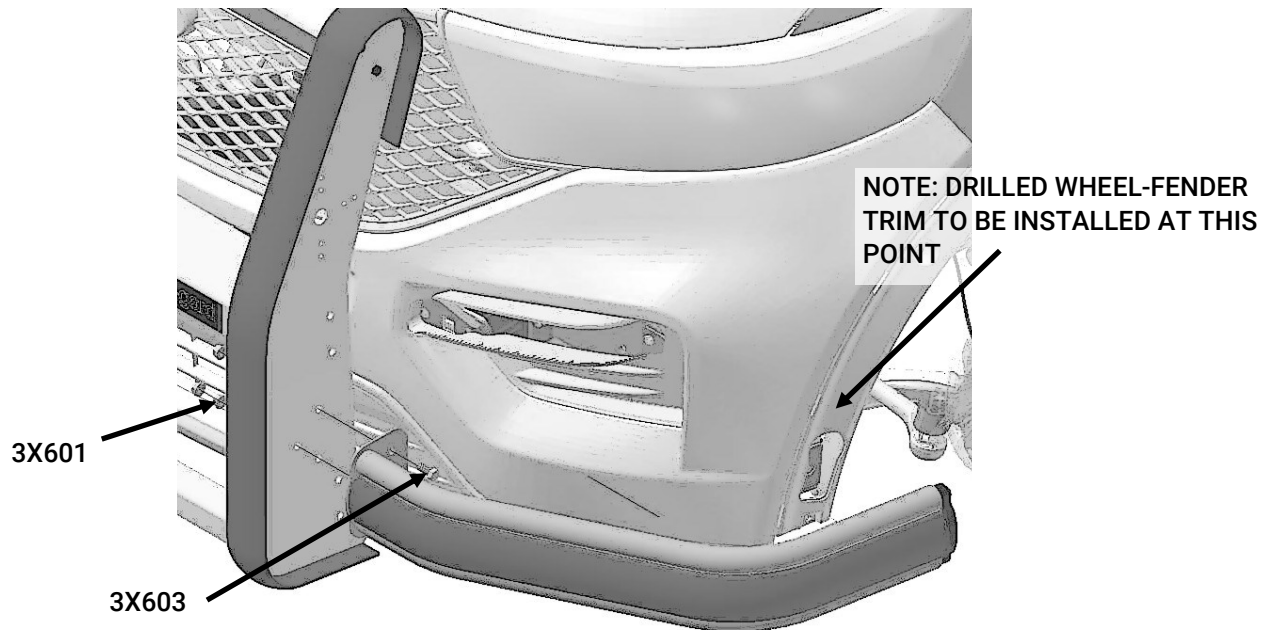

Fig. 6
- A. Loosely assemble the wrap to the push bumper using (3) 3/8-16 x .875 black hex hd bolts [3X603] and (3) 3/8 nuts [3X601]. (Fig. 6)